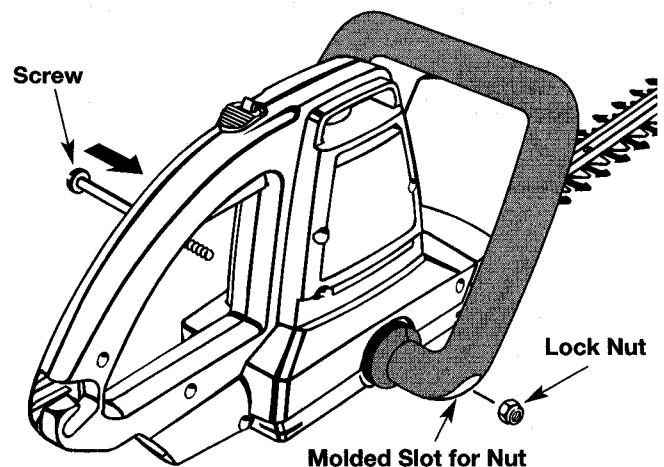

Fig. 2
4. Place your trimmer on a workbench and place lock nut into molded slot in front handle (Fig. 2).
5. Insert screw through the front handle and motor housing (Fig. 2).